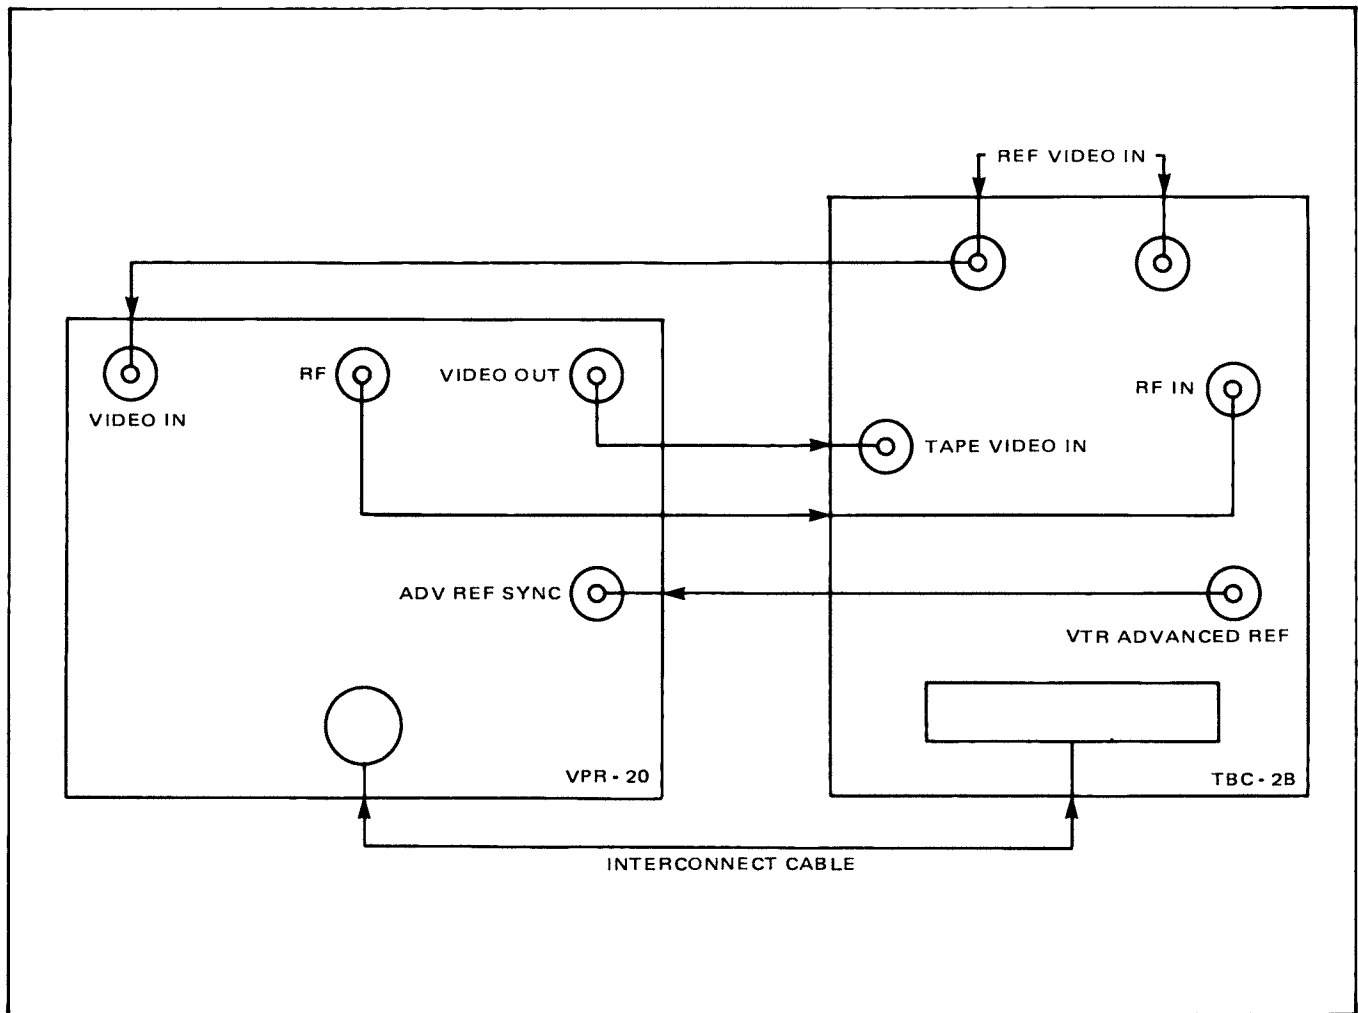

Figure 2-4. TBC-2B/VPR-20 Installation
2. Interconnect the TBC-2B with the VPR-20 in accordance with Figure 2-4.